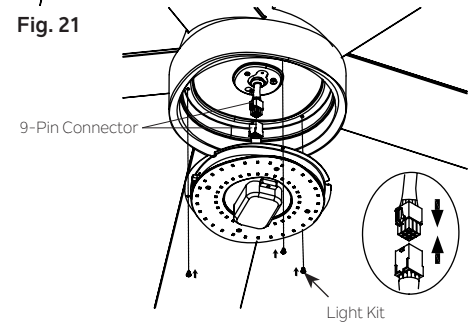

Fig. 22
Step 2. Hold the light kit close to the light plate assembly and connect the 9-pin connector together. Note: The two connectors have keyholes that must be mated correctly before they can be engaged. (Fig. 22)